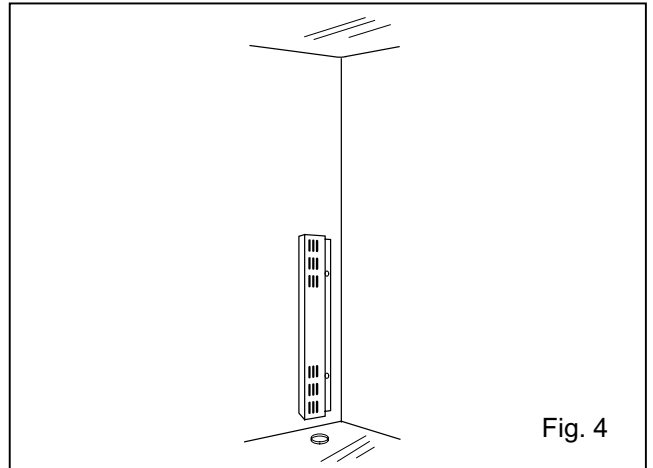

Fig. 4
6. Attach the sensor cover to the right side of the chamber with 2 screws on the chamber wall (Fig. 4)